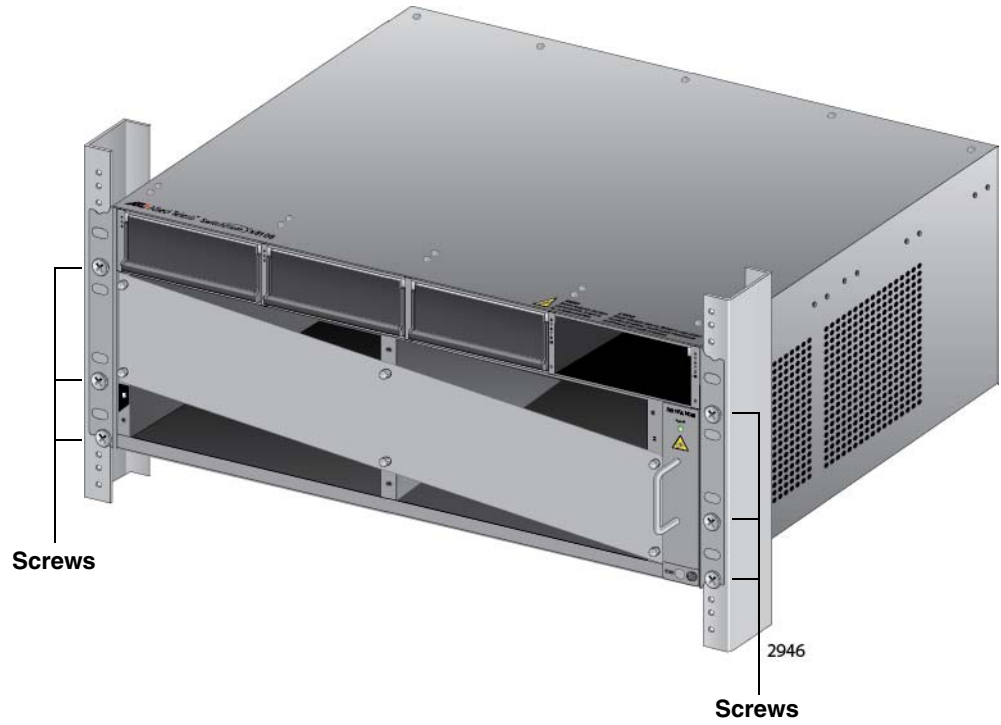

Figure 43. Tightening the Rack Mount Screws
5. Tighten all six screws shown in Figure 43 on page 115 to secure the chassis to the equipment rack, Allied Telesis recommends tightening the screws to 10 inch-lbs.